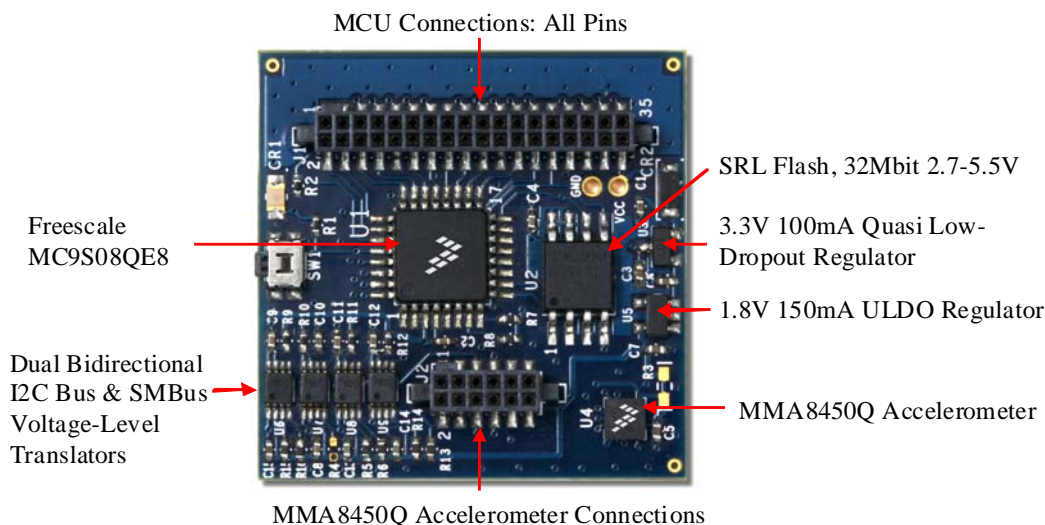

Figure 5. MMA8450Q Sensor Tool Box Demo Board
The following are some important considerations for board layout of the MMA845xQ accelerometer to ensure the best performance. The MMA8450Q has a very tight voltage input tolerance which may call for an extra voltage regulator for some systems. Level translators may be required if the MCU/processor is operating at a higher voltage. Bypass capacitors are recommended on the input voltage pins to ensure a clean signal to the sensor for optimal noise performance. Figure 5, is Freescale's MMA8450Q Sensor Toolbox Demo Board. This is a four (4) layer board. The board was designed to be able to access every pin on both the MCU and on the accelerometer for quick debug. The board has 32Mbit Flash which can be used for data logging and to perform algorithm analysis. The board has an LED and a switch for general purpose functions and a resistor, "R3", that can be cut to measure current drain from the accelerometer. This board was designed as small as possible so that it would be non invasive when mounted on other boards for different applications. The board can plug into an interface board to the PC or to a battery board. The flat back of the board is great for mounting the board with the battery pack onto moving objects to log data. The flat back also allows the board to be easily mounted to other designs. All the accelerometer pins are accessible through the board, bypassing the MC9S08QE8 microcontroller, if another external processor/MCU will be used. For use of the board as a demo board please visit [www.freescale.com/sensortoolbox](http://www.freescale.com/sensortoolbox). The part number of the board is LFSTBEB8450. The software is available on the web site at the link.